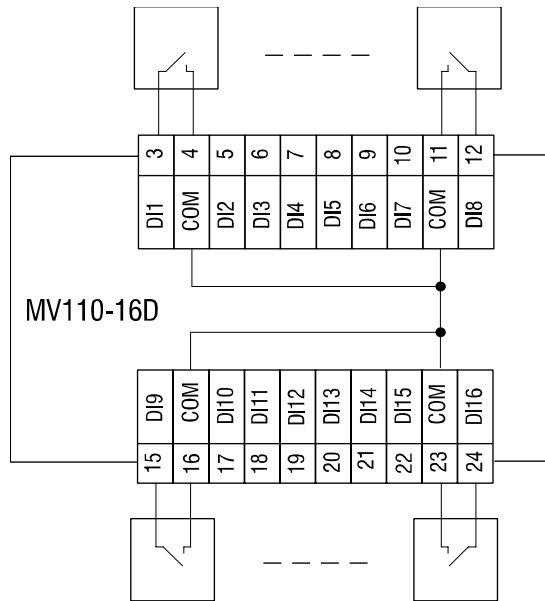

Fig. 4.2 Connection of switch contacts to the MV110-16D
- Connection variants for different signal types are shown in Fig. 4.2 – 4.3 and 4.5 – 4.7.
Connection variants for different signal types are shown in Figures 4.2 – 4.3.